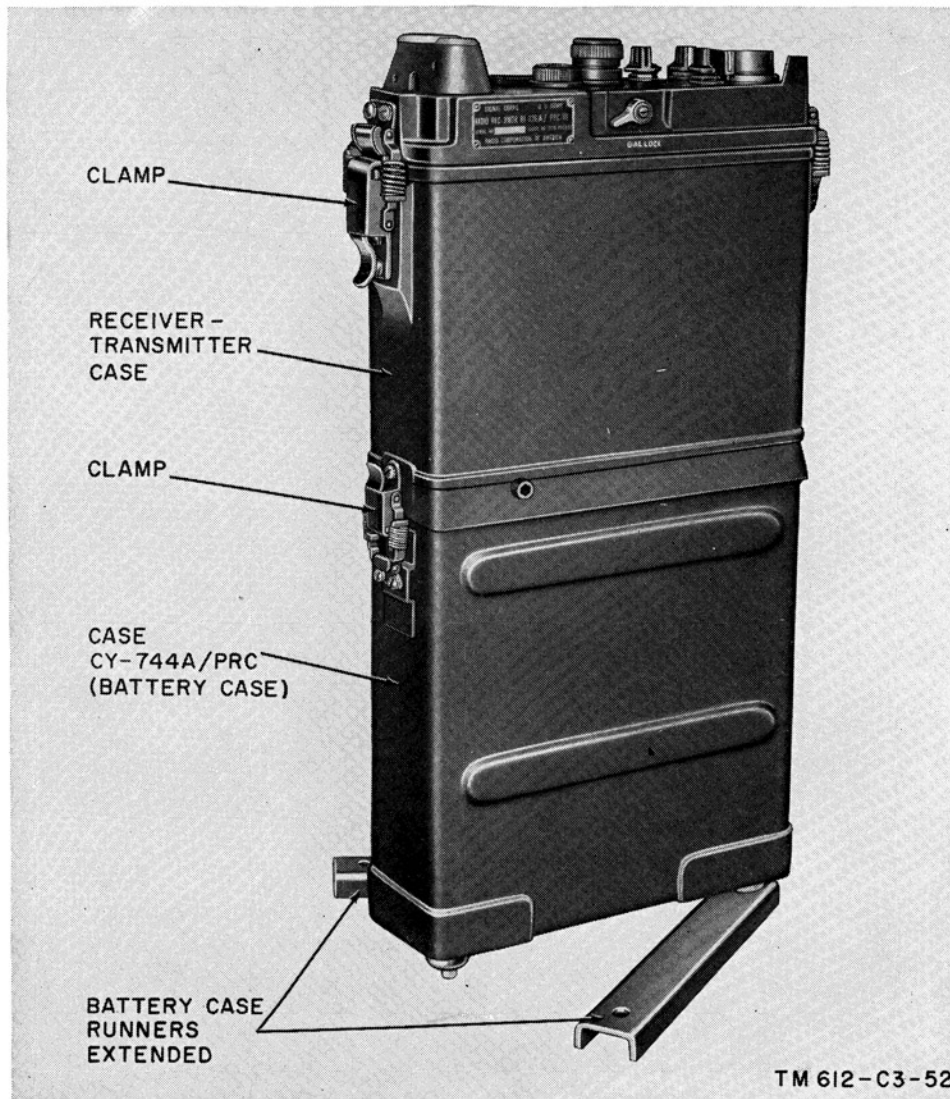
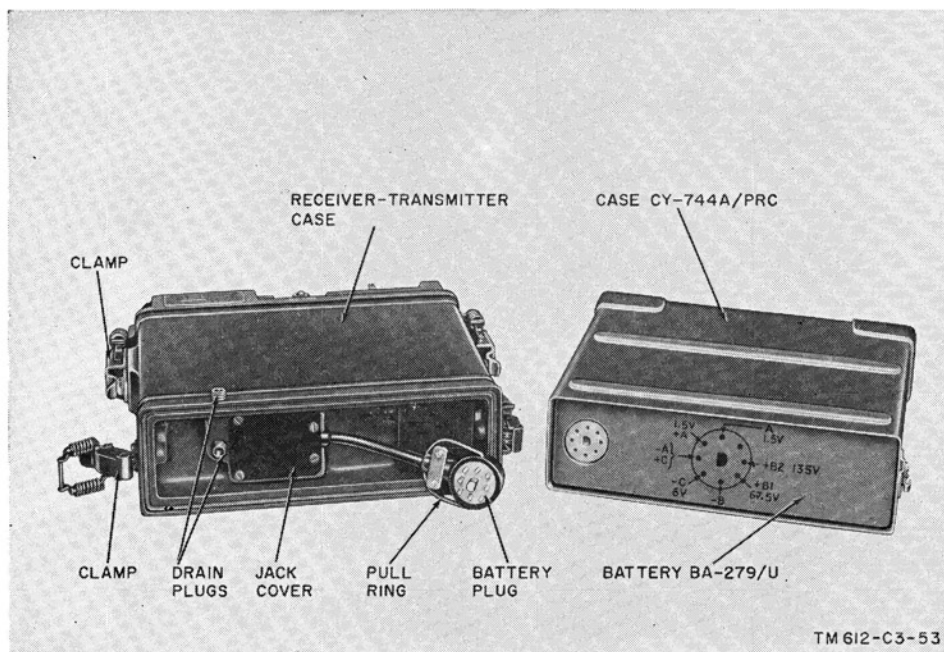
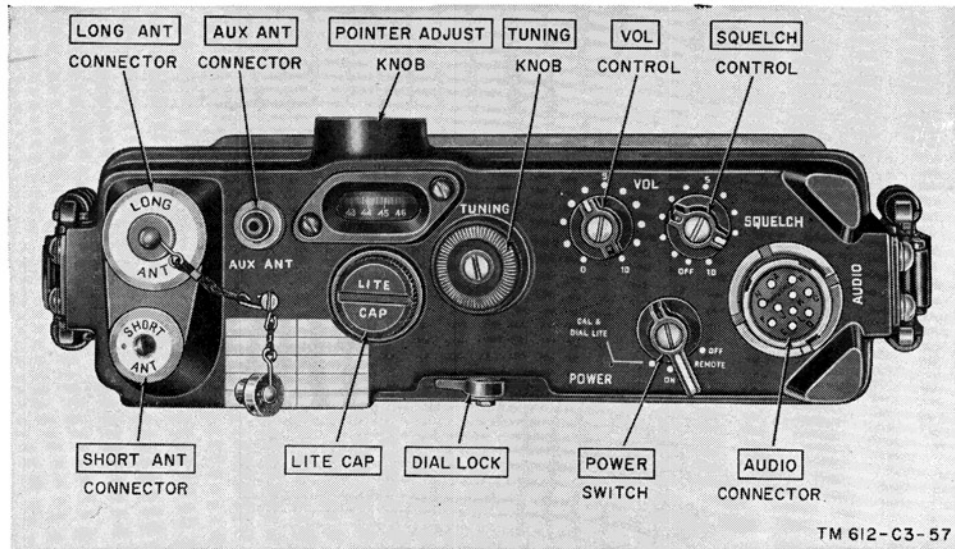

Figure 4. Receiver-transmitter and battery cases, connected.
Figure 5. Receiver-transmitter and battery cases, disconnected.
Figure 6. Receiver-transmitter control panel.
The radio set consists of a receiver-transmitter, a battery case, and minor components as shown on figure 2 and listed in paragraph 7. The receiver-transmitter is secured to the battery case by two spring clamps (fig. 4) to form a watertight seal. Runners at the bottom of the battery case may be spread apart as shown to support the radio set on a horizontal surface. Figure 5 shows the receiver-transmitter and battery cases disconnected.
in a case to which it is secured by two spring clamps located on the sides and near the front of the case (fig. 5). The controls and connectors are located on the front panel (fig. 6). The battery plug is located at the end of a short cable at the rear of the receiver-transmitter (fig. 5). The two spring clamps at the front of the receiver-transmitter case are used to secure it to the front panel. The connections between the front panel and the receiver-transmitter case and between the battery case and the receiver-transmitter case are watertight.
a. Case CY-744/PRC or CY-744A/PRC (fig. 4). Fastened to the bottom of the aluminum
- (1) Stand the radio set on a bench or on the ground, with the control panel up. Make sure that the POWER switch is at OFF. Release the lower clamps (one on each side of the case) by pushing the topmost part of the clamp downward and outward at the same time.
- (2) Lift the receiver-transmitter off the battery case and set it down, with the battery plug on the bottom (fig. 5) facing the operator. Set the battery on the same surface so that the battery socket is on the side on which the receiver-transmitter plug falls naturally. Hold the pull ring to the rear of the plug and insert the plug into the battery socket, being careful to locate the key on the plug properly. Move the pull ring to the cable side of the plug and slide the battery against the bottom of the receiver-transmitter.
- (3) Keep dirt out of the case. Slide the battery case over the battery until it seats against the receiver-transmitter. Fasten the catches by hooking the